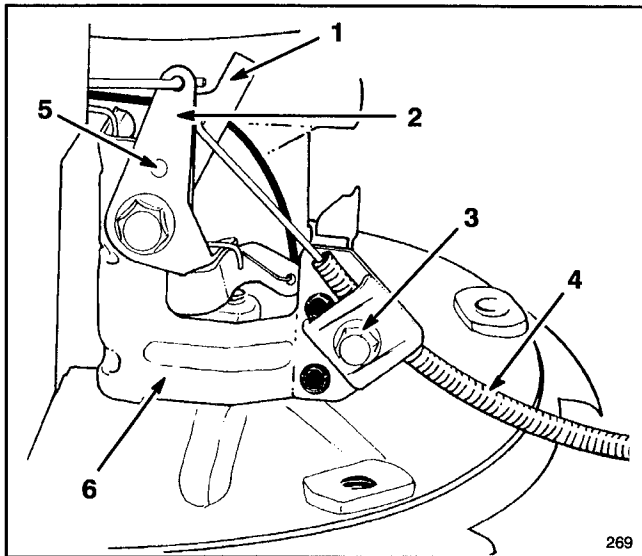

Figure 20
3. Loosen cable clamp screw until throttle cable slides (Fig. 20).
4. Check to see if holes in throttle bracket and choke lever are aligned (Fig. 20). If not, follow adjustment procedure in step 5.
5. ADJUSTMENT—A small diameter pin may be inserted into aligned holes to hold adjustment. Push throttle cable until throttle lever contacts choke lever (Fig. 20). Tighten cable clamp screw. Remove pin if used.